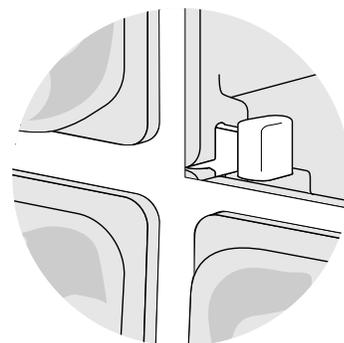

figure 2
4. You will notice eight (8) white plastic clips at the corners of new opening (figure 2)—four on the front perimeter and four on the back perimeter. With a utility knife cut away exposed portions of clips, flush with clip housings they are seated into.